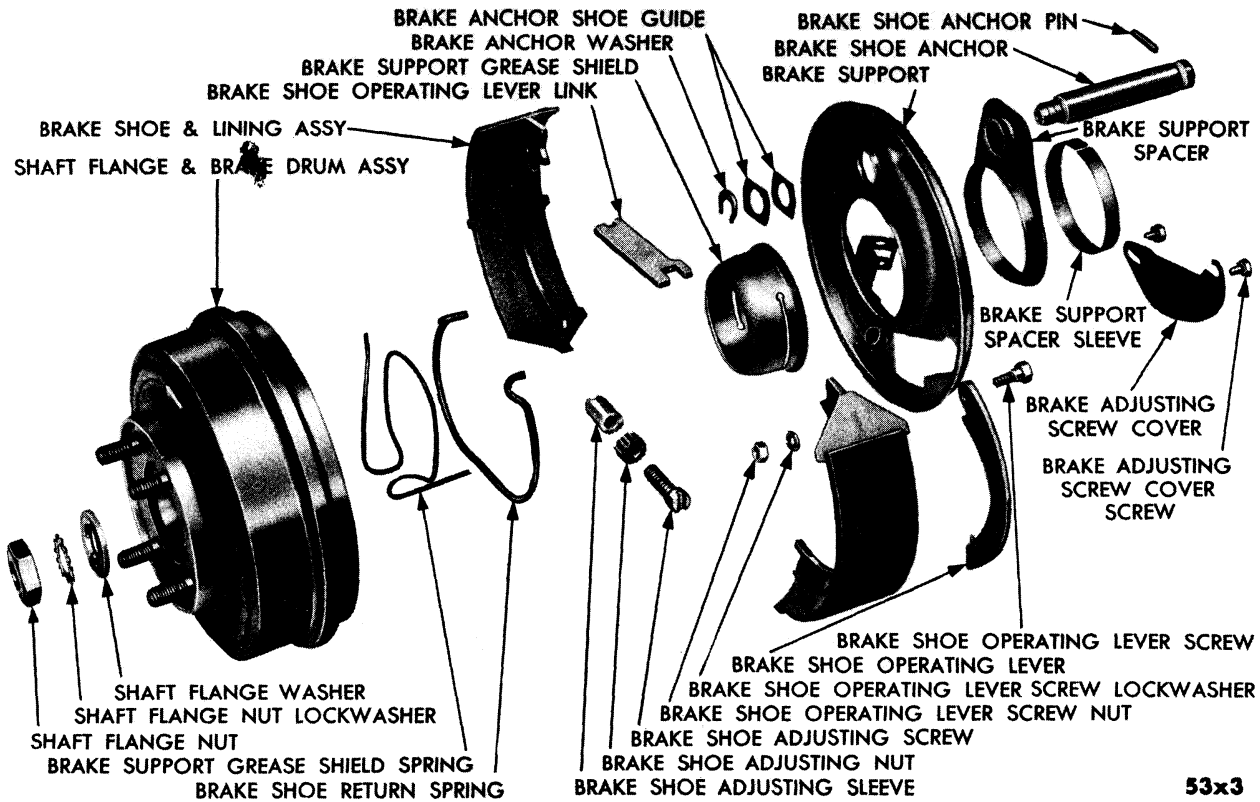

Fig. 52—Internal Expanding Hand Brake (Disassembled View)
- (13) Remove the brake support grease shield spring and remove shield. (Refer to Fig. 52.)